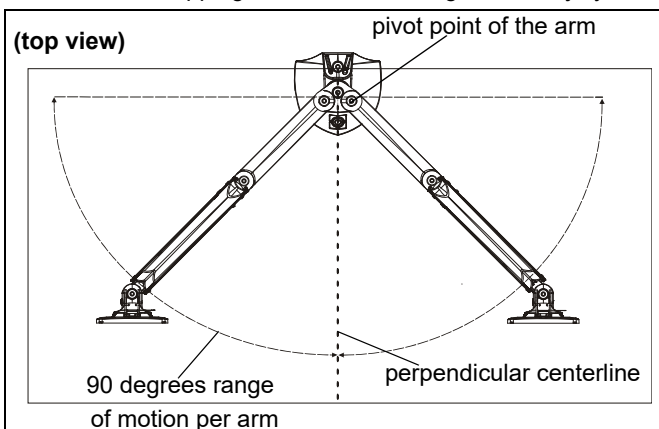

Figure 18
1. Adjust arm angles as desired within a 90 degree range from the pivot point of the arm and a perpendicular centerline of mount. (See Figure 18)